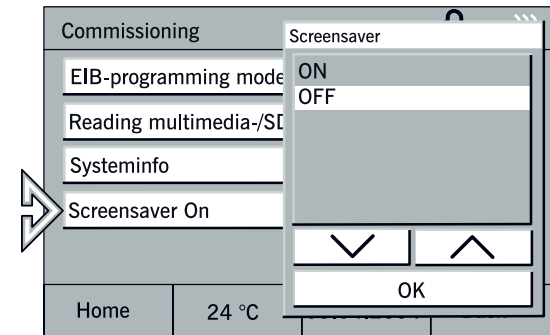

Fig. 71
1. Insert the SD card into the control panel and press the "Screensaver" button (Fig. 71).